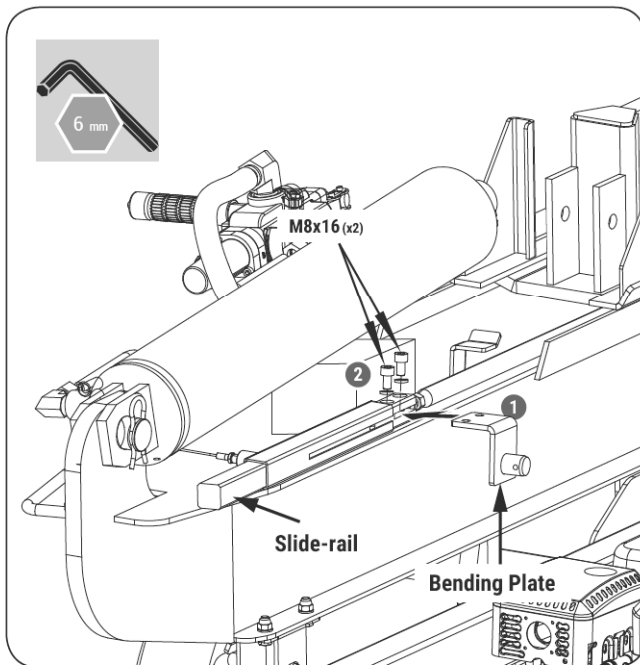

Figure 6b
2. Insert the bending plate into the U-shaped narrow slot of the slide-rail, align the two holes on the bending plate with the two holes on the slide-rail, and then tighten them with M8x16 bolts. (See **Figure 6b.**)